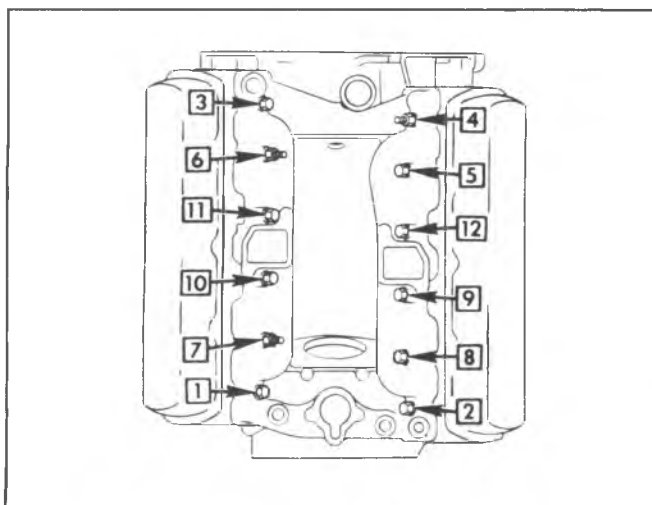

Fig. 6A6-31--Intake Manifold Torque Sequence
1. Coat both sides of gasket sealing surface that seal the intake manifold to the head with #1050805 sealer, or equivalent, and position intake manifold gasket. (Fig. 6A6-30).
4. Dip intake manifold bolt in engine oil and torque in sequence shown to 15 lbs. ft. (20 N·m). Then re-torque to 40 lbs. ft. (54 N·m) (Fig. 6A6-31).